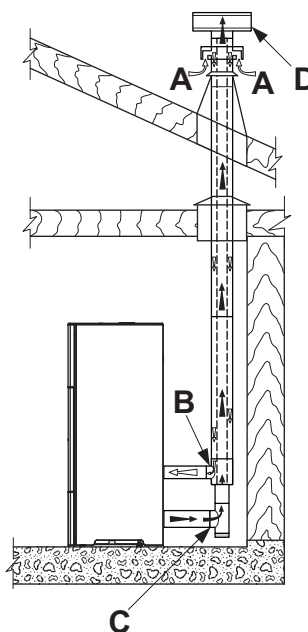

fig. 5.5
- ducted combustion air using a coaxial pipe to discharge the flue gas and take in fresh air; consequently no fresh air vent is needed in the room (Fig. 5.5 A, B=Air intake C, D=Flue gas outlet);
For “Ermetica” series pellet stoves a special coaxial pipe can be used to both discharge the flue gas and duct the combustion air from the outside (Fig. 5.5 A, B=Air intake C, D=Flue gas outlet).